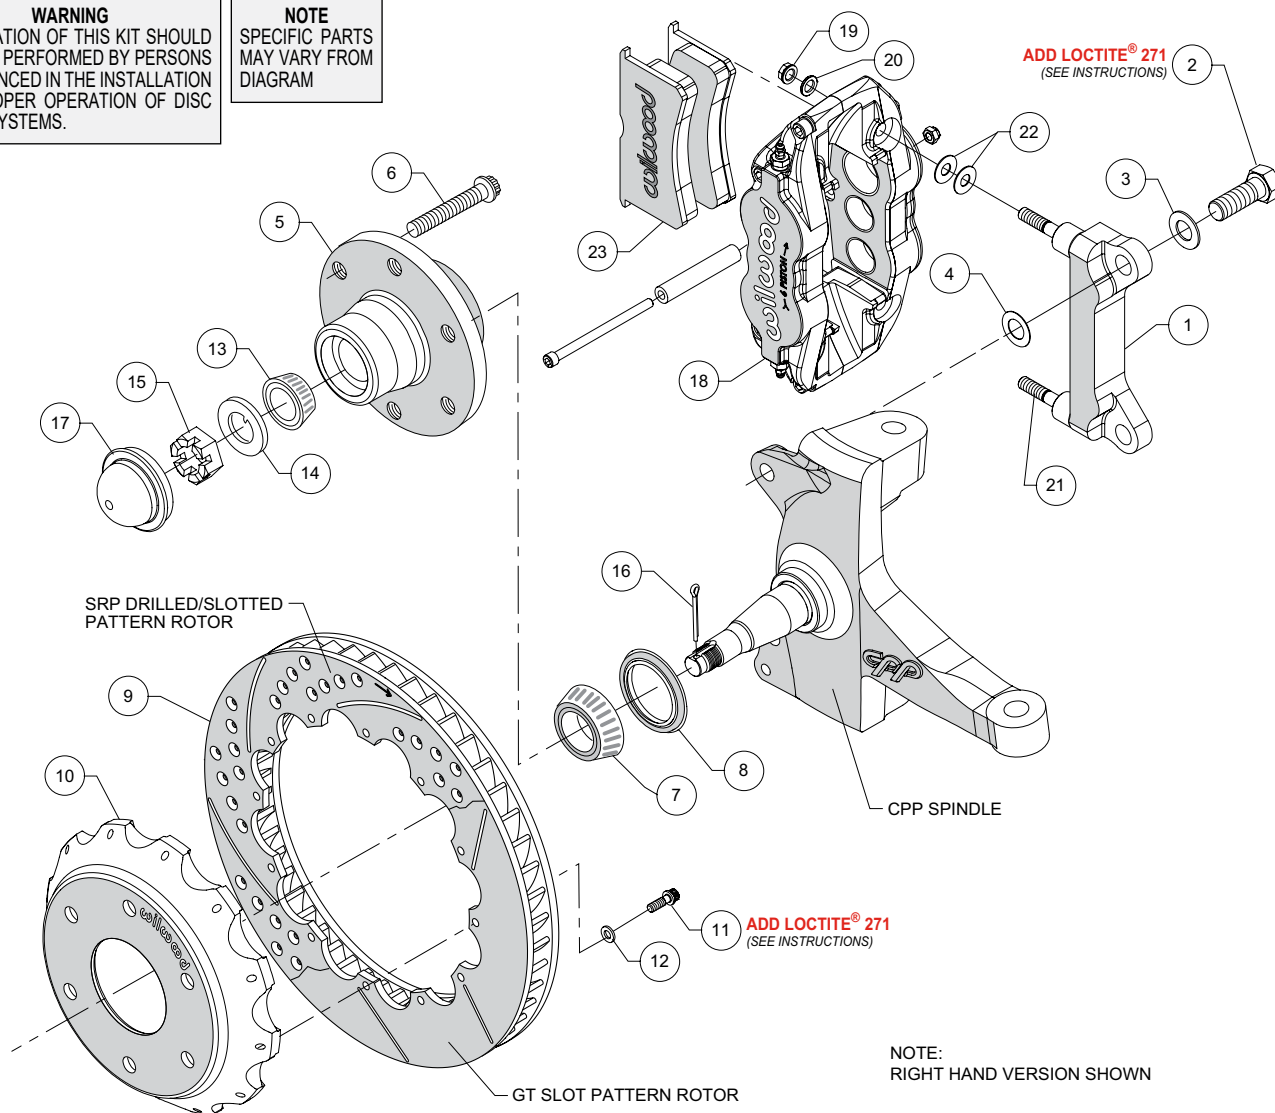
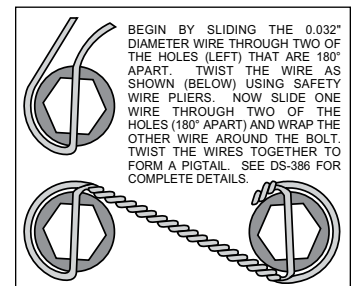

Figure 1. Typical Installation Configuration
Figure 3. Safety Wire Diagram
**NOTE:** Numbers in parenthesis refer to the parts list and Figure 1 on the preceding pages.
- The caliper mount bracket (1) should initially be installed with clean, dry threads on the mounting bolts. Orient the bracket, as shown in Figure 1, and Photo 1, and install using bolt (2) and washer (3). Initially place one .024" thick shim (4) on each bolt between the bracket and upright, Figure 1. Temporarily tighten the mounting bolts. **NOTE: The bracket must fit squarely against the mount bosses on the upright.** Inspect for interference from casting irregularities, machining ridges, burrs, etc. Later, after the caliper alignment has been checked, the mount bolts will be secured using red *Loctite*® 271.
- Install wheel studs (6) into the hub (5), Photo 2. Torque to 77 ft-lb.
- Pack the large inner bearing cone (7) with high temperature disc brake bearing grease (available from your local auto parts store) and install into the backside of the hub (5), Photo 3.
- Install the grease seal (8) by pressing into the backside of the hub (5), flush with the end of the hub, Photo 4.
- Orient the rotor (9) and the hat (10) as shown in Figure 1 and Photo 5. Attach rotor to hat using bolts (11) and washers (12). Apply red *Loctite*® 271 to the bolt threads and torque to 155 **in-lb** using a criss-cross pattern. and torque to 155 **in-lbs**. For an added measure of security, the bolts may be safety wired using standard 0.032 inch diameter stainless steel safety wire as shown in Figure 3. Refer to Wilwood's data sheet DS-386 (available at [www.wilwood.com/Pdf/DataSheets/ds386.pdf](http://www.wilwood.com/Pdf/DataSheets/ds386.pdf)) for complete safety wire installation instructions.
- Pack the small outer bearing cone (13) with high temperature disc brake bearing grease and install into hub (5). Slide the hub assembly onto the spindle. Secure using spindle washer (14) and spindle nut (15), Photo 6. Adjust bearings per OEM specifications. Install a new cotter pin (16).
- Press the dust cap (17) into the hub (5). **NOTE: Do not hammer center of cap. Install using outer flange only.**
•Slide the hat/rotor assembly (10/9) onto the hub (5), Photo 7. **NOTE:** The hat must fit flush against the hub face or excessive rotor run out may result. Install three lug nuts (finger tight) to keep the hat/rotor assembly in place while continuing with the installation.
•**NOTE:** This kit contains distinct right and left hand calipers that must be mounted in a specific direction, as described below. Initially place two .035" thick shims (22) on each stud (21) as shown in Figure 1 and Photo 8. Mount the caliper (18) onto the bracket (1) using lock nuts (19) and washers (20), Figure 1. Ensure that the caliper is mounted so that the largest pistons are at the rotor exit end of the caliper, in relation to the direction of rotor rotation. Temporarily tighten the lock nuts and view the rotor through the top opening of the caliper. The rotor should be centered in the caliper, Photo 9. If not, adjust by adding or subtracting shims (4) between the bracket and the upright. Always use the same amount of shims on each of the two mounting bolts. Once the caliper alignment is correct, remove the bracket mounting bolts (2) one at a time, apply red *Loctite*® 271 to the threads, and torque to 140 ft-lbs.
•Remove the caliper center bridge pad retainer bolt, nut, and tube from the caliper. Insert the brake pads (23) into the caliper, with the friction material facing the rotor, as shown in Photo 10. Check that the top of the brake pad is flush with the outside diameter of the rotor, Photo 11. If not, adjust by adding or subtracting shims (22) between the caliper and the bracket. After the caliper pad height is set, torque the caliper lock nuts (19) to 30 ft-lb. Secure the brake pads in place with the center bridge pad retainer tube, bolt, and locknut, Photo 12. The locknut should be snug without play in the bolt or tube. Be cautious not to over tighten.